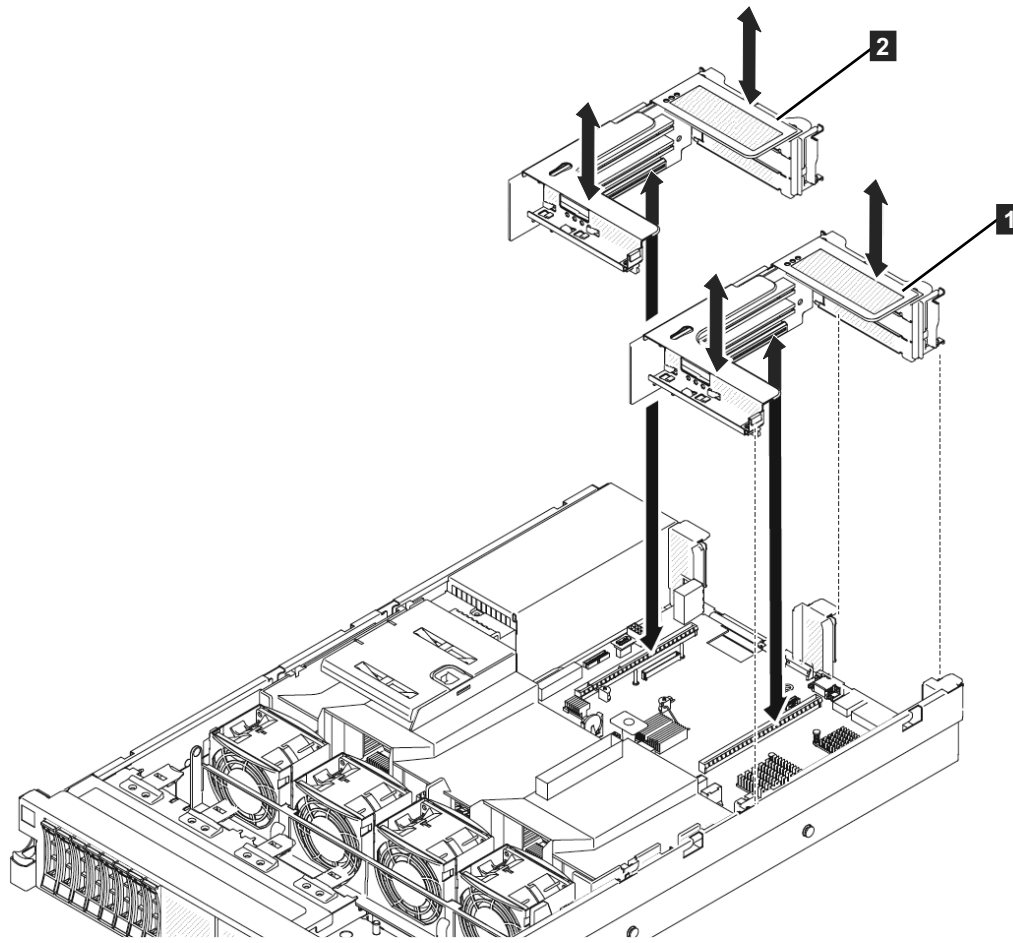

Figure 244. Replacing the 2145-DH8 PCI express riser card assembly
- PCI riser slot 1 **1** (the slot farther from the power supplies): You must install a PCI riser-card assembly in slot 1. See Figure 244 on page 291.